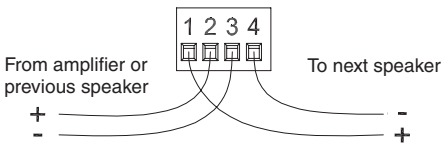

Figure 10: Daisy-chain wiring
2. **Daisy-chaining.** Connect the wire pair of the subsequent speaker to pins 1 and 4. When one input connector is removed, subsequent speakers will also be disconnected. See Figure 10.